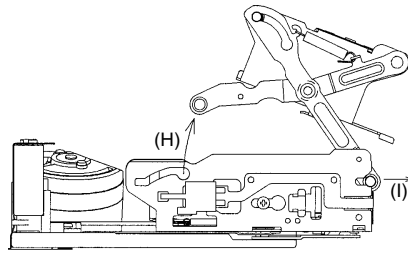

Fig.7
- (5) Turn the cassette controller in the direction shown by the arrow (H) and shift it in the direction shown by the arrow (I) to remove it from the slide chassis. (See Fig.7.)